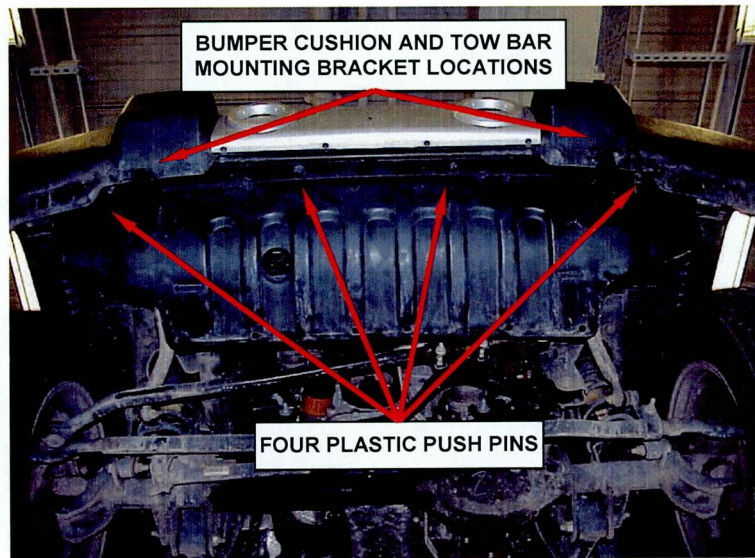

Figure 4 – Front Air Dam Fasteners
5. Remove and save the four plastic push pins from the front mounting flange of the front air dam (Figure 4).
6. Remove the front air dam by slipping the front mounting flange of the air dam between the bumper cushions and the tow bar brackets (Figure 4).
9. Position the front air dam on the vehicle by slipping the mounting flange of the air dam between the bumper cushions and the tow bar brackets (Figure 4).
10. Install the four plastic push pins in the mounting flange of the air dam (Figure 4).